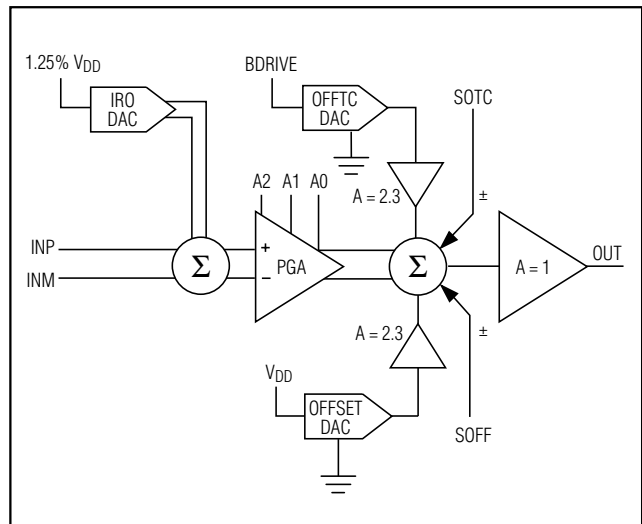

Figure 2. Signal-Path Block Diagram
junction to correct the error. Use the Offset TC DAC to adjust the amount of B_{DRIVE} voltage that is added to the output summing junction (Figure 2).
- Differential to single-ended output buffer (Figure 2)